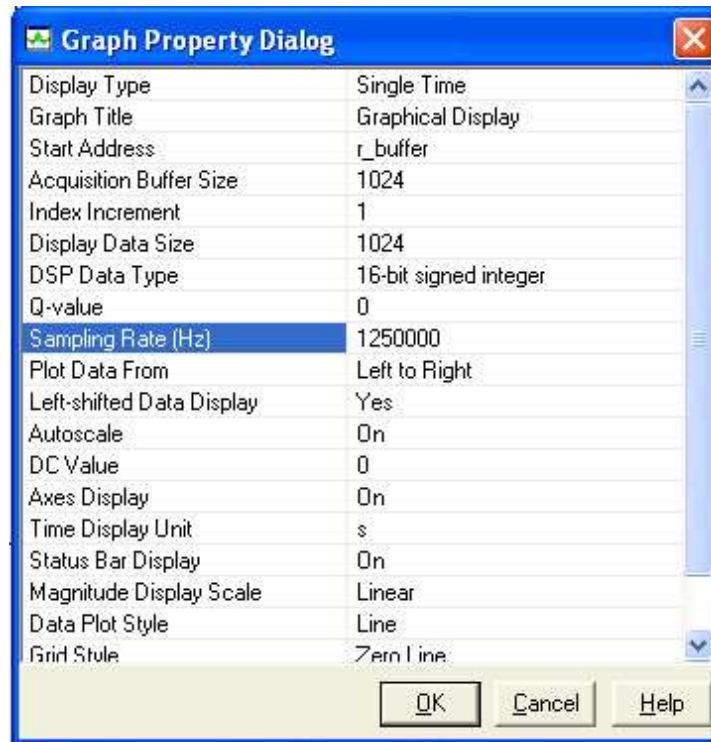

Figure 19. CCS Graph Property Window
- With this done, a new dialog window with the properties of the graph appears (see Figure 19). Here, a few values must be entered, whereas the most settings can be left in the default position: